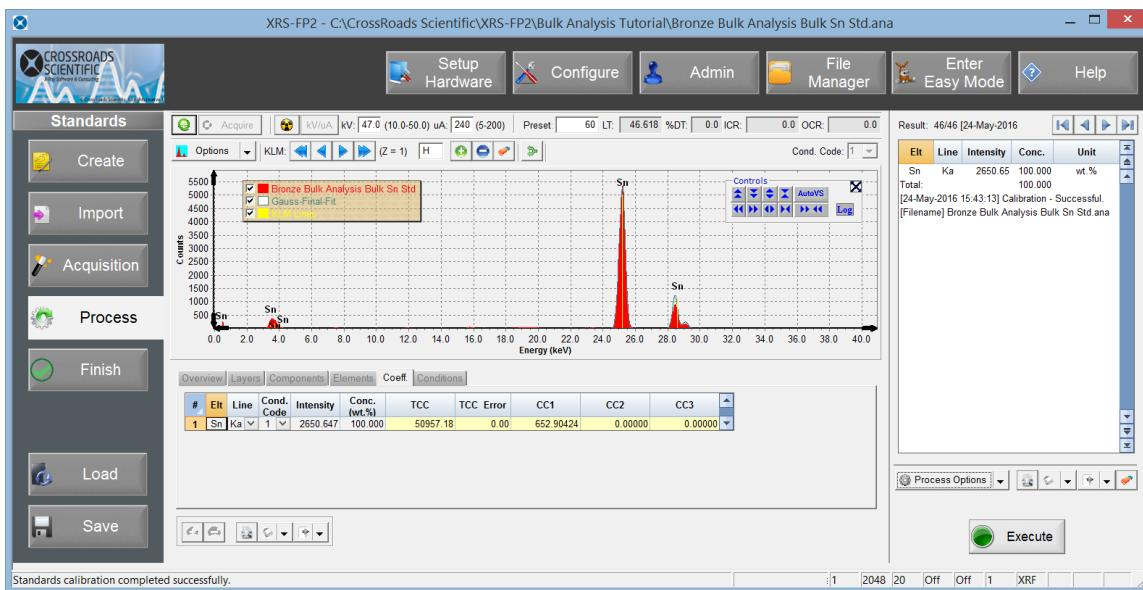

Figure 25. XRS-FP2 Standards Workflow – Process. Process the spectrum for the bulk Sn standard to generate the TCC.
- Now select the **Process** button. Then select the Execute button in the R-hand panel to process the pure bulk Sn standard spectrum and generate calibration coefficients (TCC). The Sn calibration coefficient, sensitivity factor, will now be listed under the “Coeff.” Tab (Fig. 25).